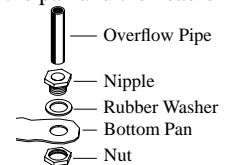

Fig. 4
- **Overflow assembly.** Remove nut and place nipple through the hole in the pan, with the rubber washer between the pan and the head of the drain nipple (Fig. 4). Screw on nut and draw up tight against bottom of pan. Insert overflow pipe in nipple to retain water. Overflow pipe may be removed to drain pan when necessary. A garden hose may be screwed on the drain nipple to drain water away from your unit.
- **Pump.** The pump must be secured to prevent it from tipping over. Secure the pump to the pump mounting bracket (item 16 in parts drawing). Remove a nut located under the head of the pump, place the pump bolt through the hole in the mounting bracket, and secure with the nut that was previously removed. Plug pump into receptacles. Retain pump cords to internal braces to prevent cords from dropping into water reservoirs or contacting moving components.